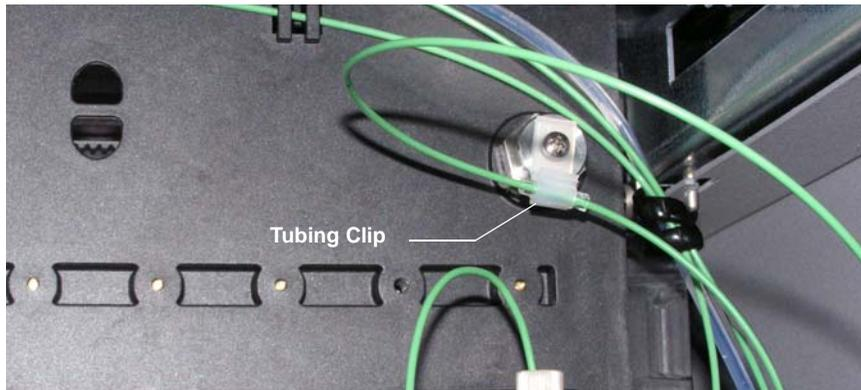

Figure 5-21. Tubing Clip Above Needle Inside the Dionex AS-AP (Dionex AS-AP Configured for Push Mode Shown)
- If the Dionex AS-AP is configured for push mode, lift up the tubing to remove it from the tubing clip above the needle (see Figure 5-21).
6. Loop the buffer line up to the tubing clip on the back wall of the autosampler. Verify that the short piece of clear tubing is positioned 30.5 cm (12 in) from the tubing clip on the front of the needle arm and then push the tubing into the clip (see Figure 5-21).